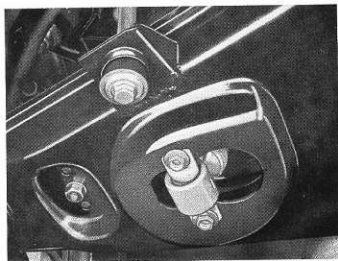

Fig. 7-8. Lower attachment, front shock absorber
The lower attachment (Fig. 7-8) consists of an eyelet provided with a rubber bush, which cannot be disassembled and a piece of tubular piping, the flattened ends of which are screwed to the bottom side of the lower control arm.
2. Remove the two lower attaching bolts (Fig. 7-8) on the underside of the lower control arm, and take down the shock absorber.
3. Fit the washer (7), the spacing sleeve (2) and the rubber bush (1).